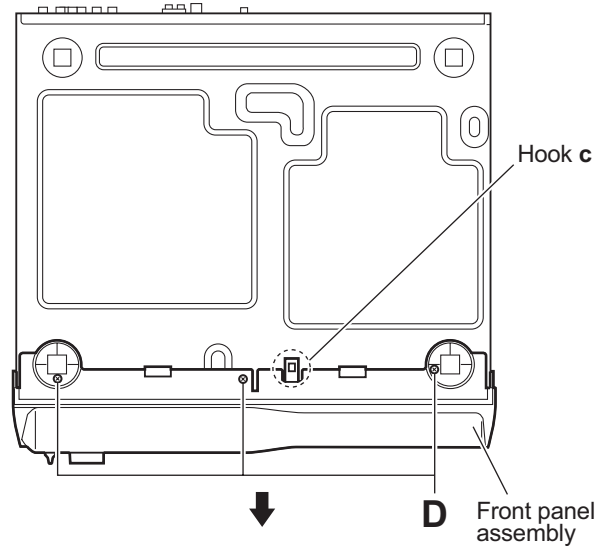

Fig.6
- (5) From the bottom side of the main body, remove the three screws **D** attaching the front panel assembly. (See Fig.6.)